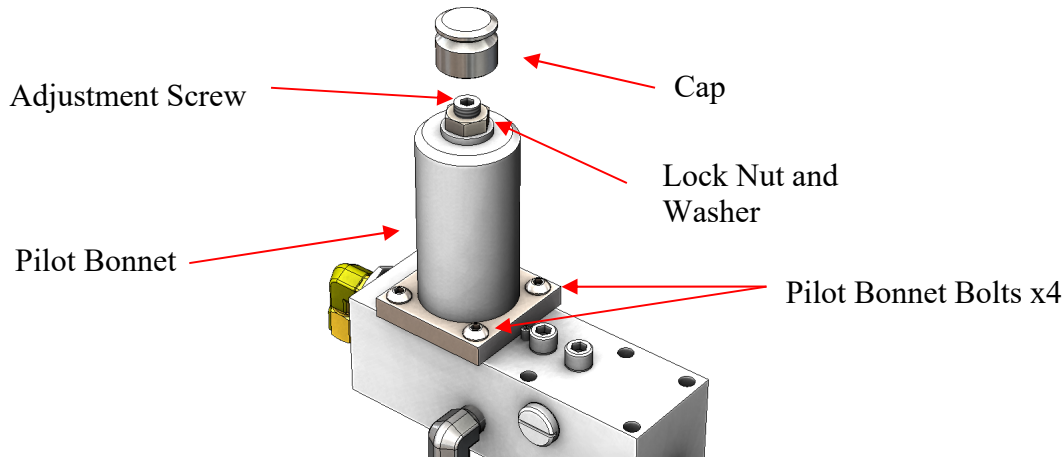

Figure 28: Pilot Bonnet
5. Cut and remove the pilot valve seal wire and remove the cap from the pilot bonnet. See Figures 28 and 29.
6. Loosen the lock nut from the adjustment screw. See Figure 28.
8. Remove the four pilot bonnet bolts. See Figure 28.